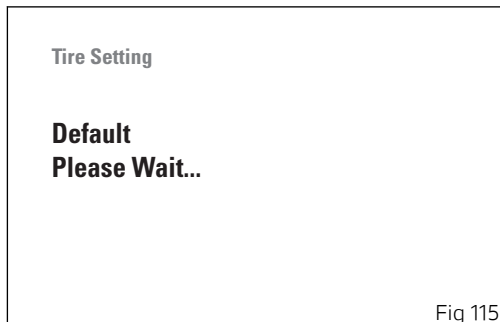
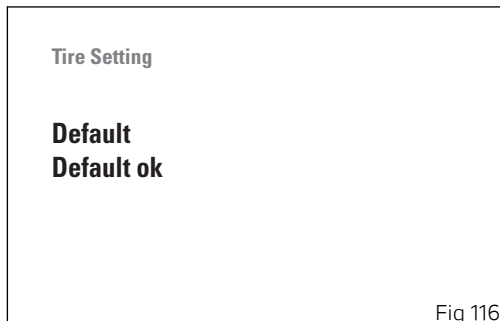

Fig 115
Fig 116
To reset to the default settings, use buttons (1) and (2) to select "Default" (Fig 111) and press button (4). Then, the instrument panel shows "Default Please Wait..." (Fig 115) and after a while "Default ok" (Fig 116) for 2 seconds, then followed by the previous screen.